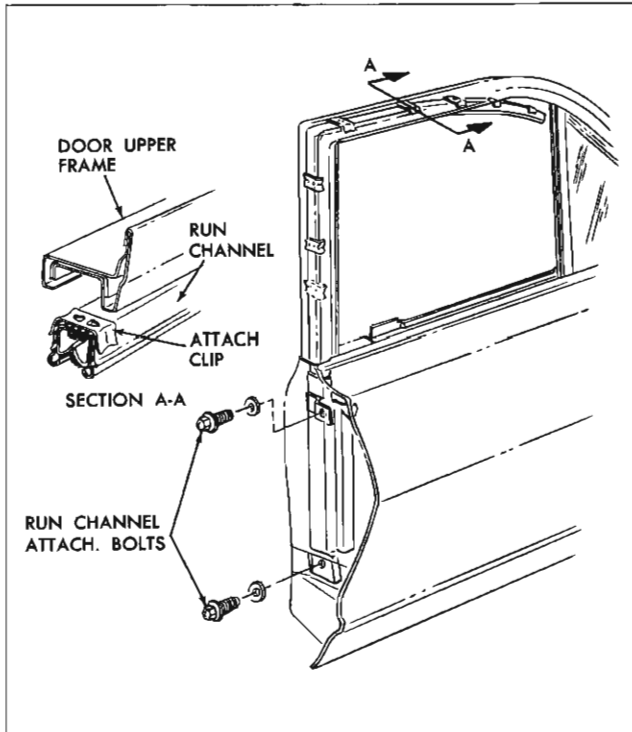

Fig. 3-38 Glass Run Channel
The door window travels in the ventilator division run channel at front edge of glass and in the glass run channel at rear edge of glass. The glass run channel is retained by two bolts at the front door lock pillar (below belt line) and by clips inserted into the door upper frame (Fig. 3-38)
3. Remove upper and lower bolts securing glass run channel to door lock pillar panel (Fig. 3-38).
NOTE: Pressure should be exercised at the retaining clips shown in Fig. 3-38. Extreme care should be exercised during removal of run channel as this part is easily damaged by rough treatment.
6. Once run channel has been removed from the door upper frame, it can be pulled straight up at the lock pillar panel and removed from door inboard of door upper frame (Fig. 3-38).